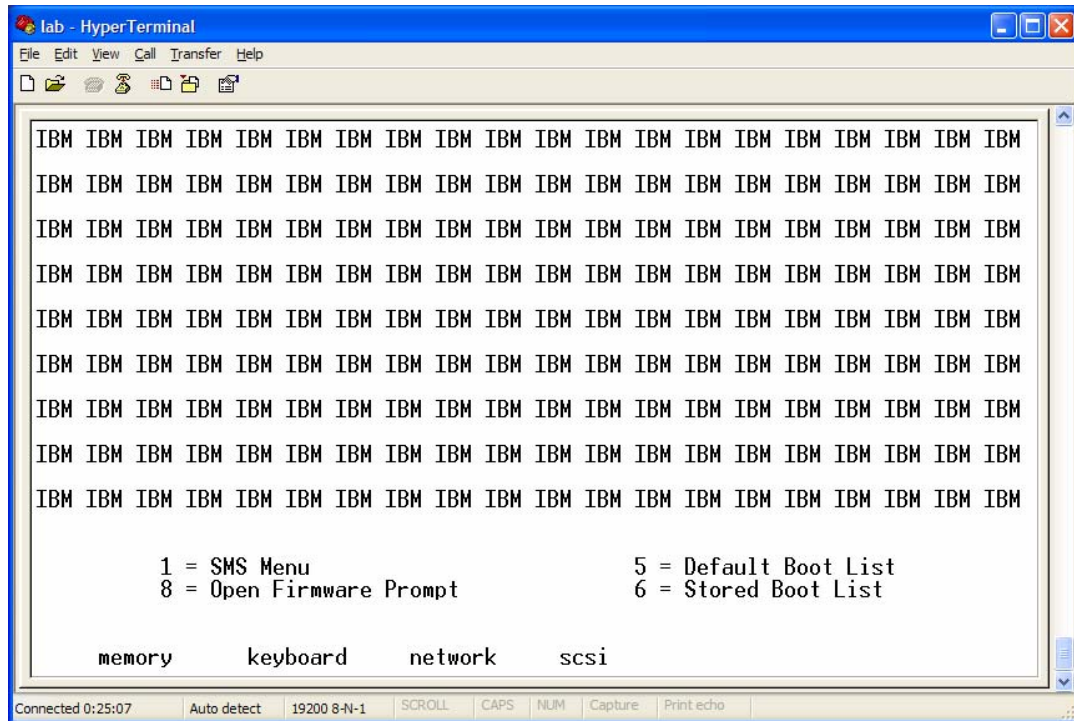

Figure 11. Viewing an in-progress screen
3. Figure 11 shows an in-progress screen. There is no action to take on your part.